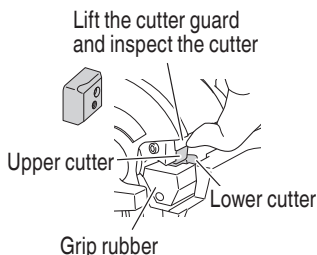

Fig. 28
- (6) Check for abnormalities such as wear, deformation or breaks in the cutter. (Fig. 28)